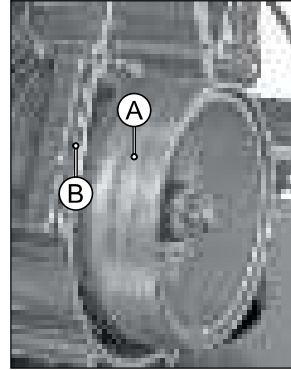

Fig. 3.206A
- Rotate rotor assembly and match the TDC mark (A) on rotor assembly and the mark (B) on crankcase assembly LH. (Fig. 3.206A)